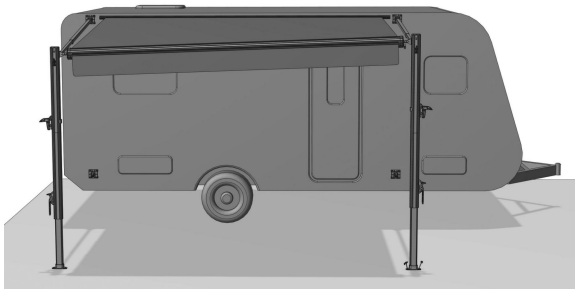

Figure D19
4.2.8 We recommend that the awning be used only for the purpose of sun protection. In case of bad rain, snow and wind, please close the awning to prevent damage. If the awning is used in light rain, adjust the length of the support leg and tilt one side of the awning to quickly drain water.( Figure D19)